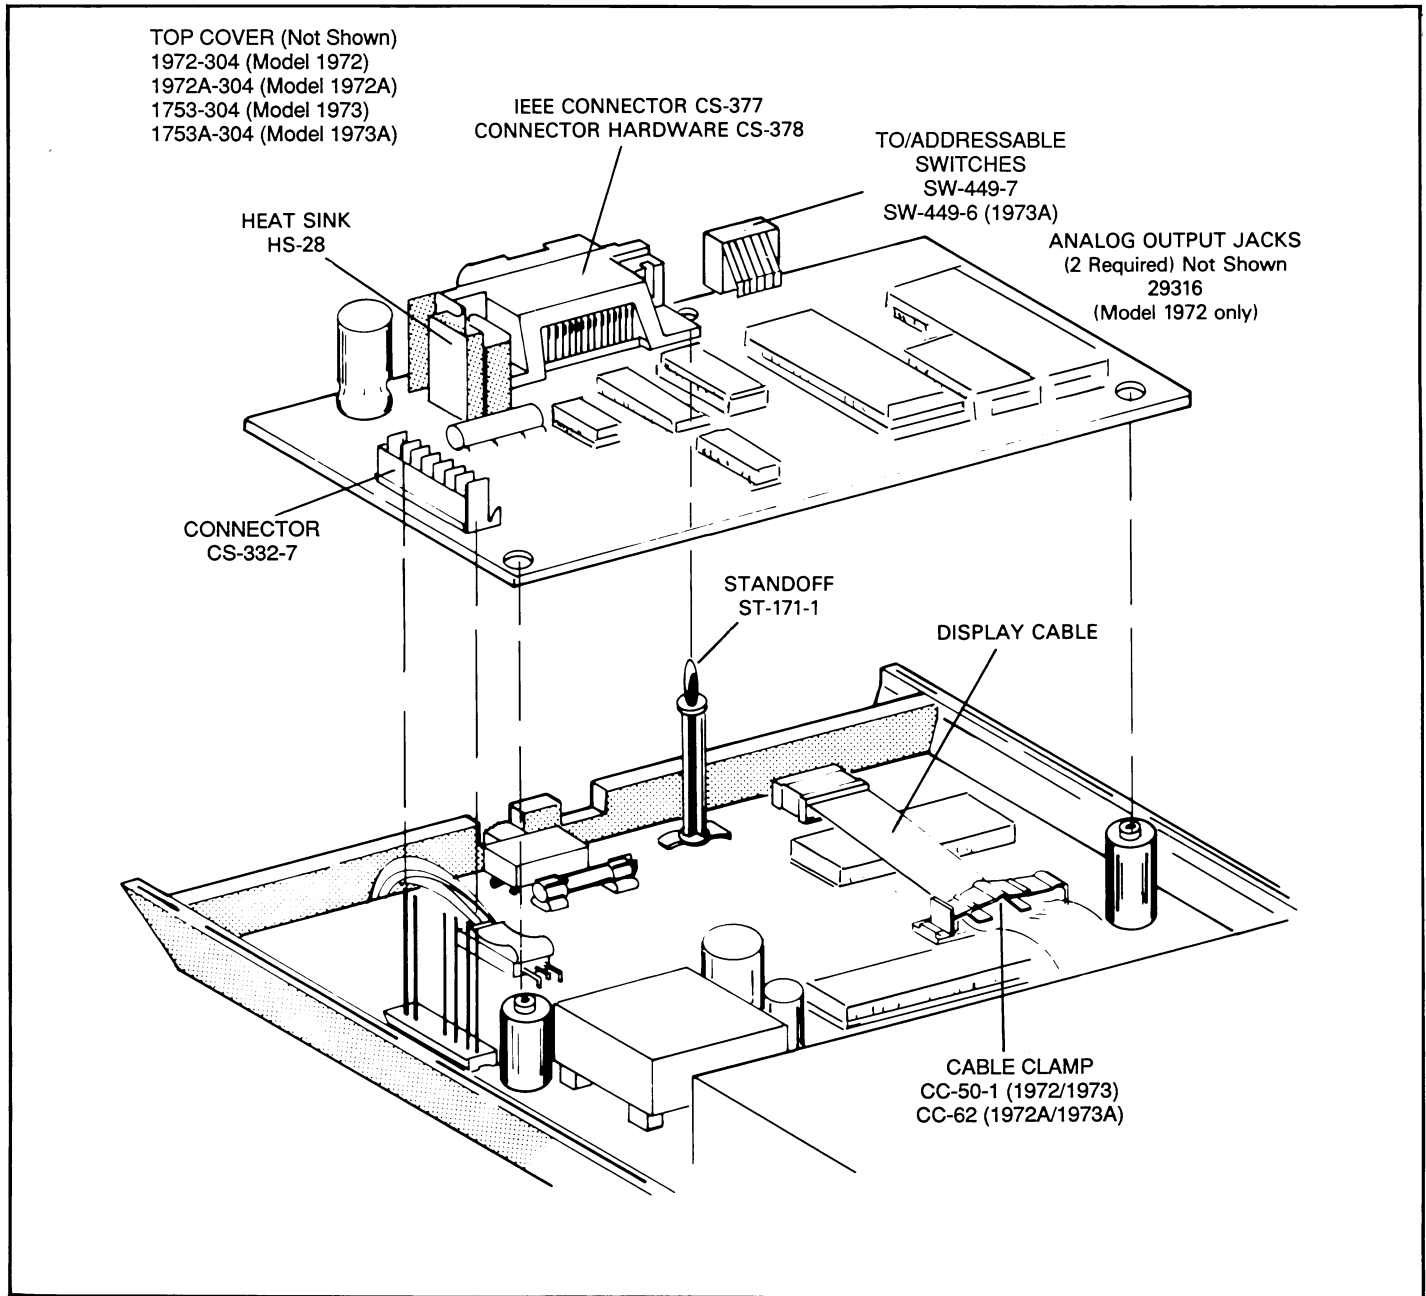

Figure 7-1. IEEE-488 Interface Installation
The Model 1973 and the Model 1972 are field installable. To install either interface (not both) into the Model 197 use the following procedure and refer to Figure 7-1.
2. Install the rear standoff (ST-171-1) by positioning it over the hole on PC board as shown in Figure 7-1, and pressing firmly until it snaps securely into the board.